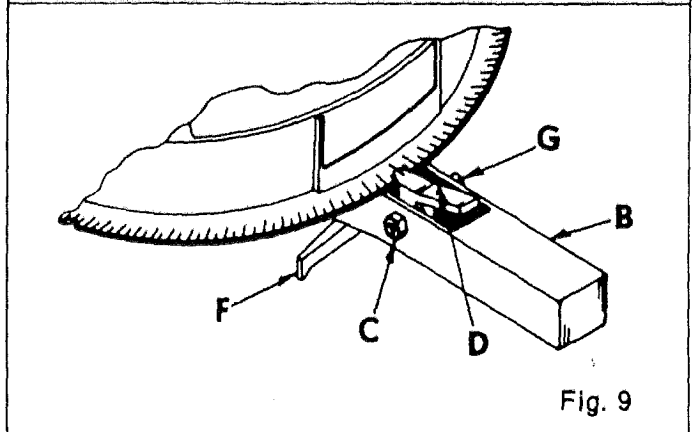

Fig. 9
2. If fence checks square to blade no adjustment is necessary. If setting should require adjustment proceed as follows: See Fig. 9.
3. Release locking lever (F) on miter arm. The detent lever must remain in the 0° setting.
4. Loosen nut (C) with 7/16" open end wrench.
5. Adjust blade square to left fence by turning screw (G) with flat screwdriver. Note: While turning screw, head of screw must be kept against miter arm.
6. When blade is square to left fence, hold screw (G) in position while tightening nut (C).